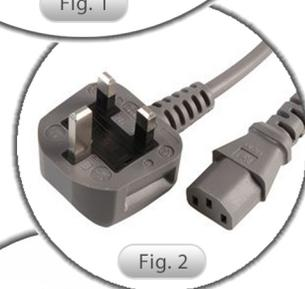

Fig. 2
**To UNLOCK side doors** - pull on the door release pins located half way down on the insides of the rear door. The pins can only be accessed when rear door is open. (See Fig. 2)
The Boost+ Charge and Sync unit is a universal device designed to charge and/or sync applications (apps) on up to 16 compatible USB devices, including tablets and mobile phones. Connect the IEC mains cable (Fig.2) to the IEC double socket located on top of the unit (Fig 3). Connect any devices needing charge using your devices USB charging cable. Then simply plug your TabCabby into a power socket with its IEC lead to power it up. Once connected, power will be given to each of the 16 USB ports.
Ensure the TabCabby is turned off at the mains. Disconnect all cables (Fig 2 & 5) from the Boost+. Push the release clip at the bottom of the Boost+ housing and then lift the device upwards to remove the Boost+ from the TabCabby (Fig 6).
Ensure the TabCabby is turned off at the mains. Align the keyholes on the rear of the Boost+ with the key prongs on the Boost+ housing (Fig 7), push the device on and then down to lock into position (Fig 8). Reconnect all required cables (Fig 2 & 5).